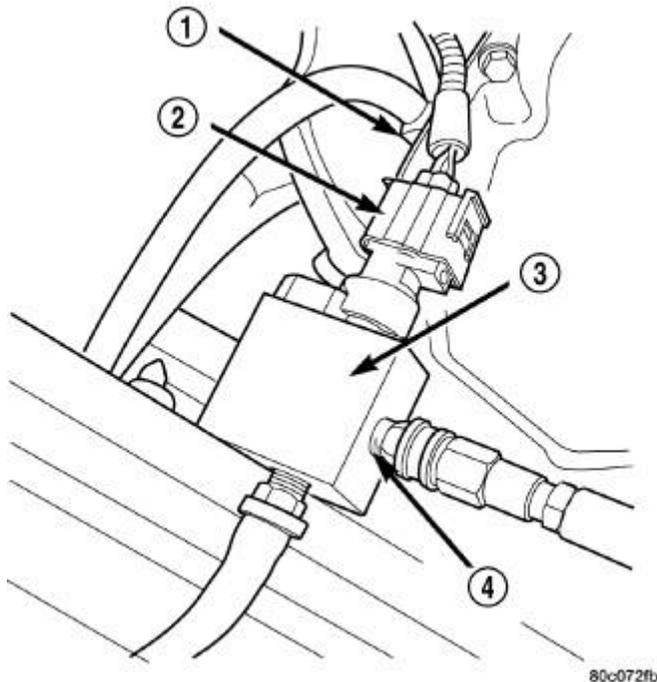

Fig. 3: Identifying Torque Converter Clutch Apply And Release Ports
To determine the line pressure, there are two available methods. The scan tool can be used to read line pressure from the line pressure sensor. The second method is to install Line Pressure Adapter (special tool #8259, Adapter, Pressure Test) (3) into the transmission case and then install the pressure gauge and the original sensor (2) into the adapter. Refer to **Fig. 3**. This will allow a comparison of the scan tool readings and the gauge reading to determine the accuracy of the line pressure sensor. The scan tool line pressure reading should match the gauge reading within ± 10 psi.